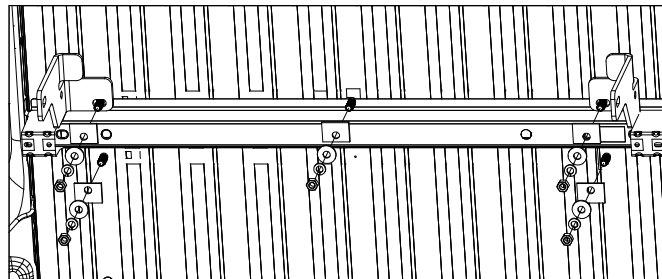

Figure C6: View under bed looking up. (Frame not shown)
6. **Place front rail hardware.** Under the bed install an offset square washer, 1/2" flat washers, 1/2" lock washers and 1/2" finish nuts on each of the carriage bolts, see Figure C6. Hand tighten each nut.